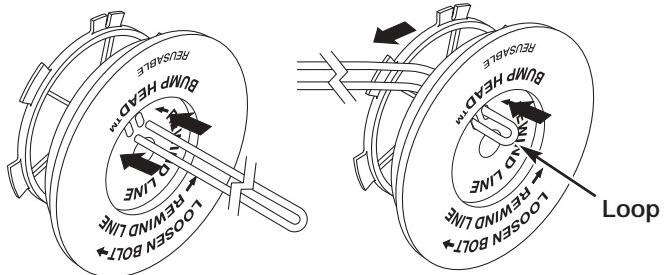

Fig. 15
6. Take approximately 18 feet (6 m) of new trimming line, loop it into two equal lengths. Insert each end of the line through one of the two holes in the inner reel (Fig. 15). Pull the line through the inner reel so that the loop is as small as possible.